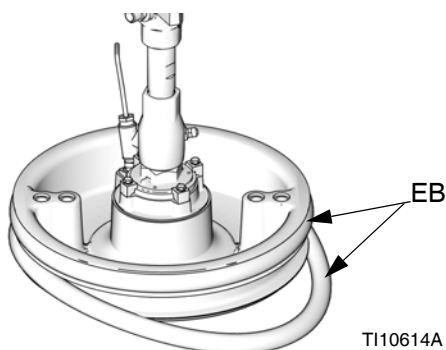

FIG. 40
1. Using a wooden or plastic tool to prevent damage to the Wiper (EB), clean all material from the seal grooves.
2. *Working from the bottom*, angle one Wiper (EB) over the back of the Platen (AD). See FIG. 40.
3. Insert the Wiper (EB) in the top groove and run the front of the Wiper into the groove.
4. If using a 55 gallon Platen, insert the second Wiper (EB) in the lower groove and run the front of the Wiper into the groove.